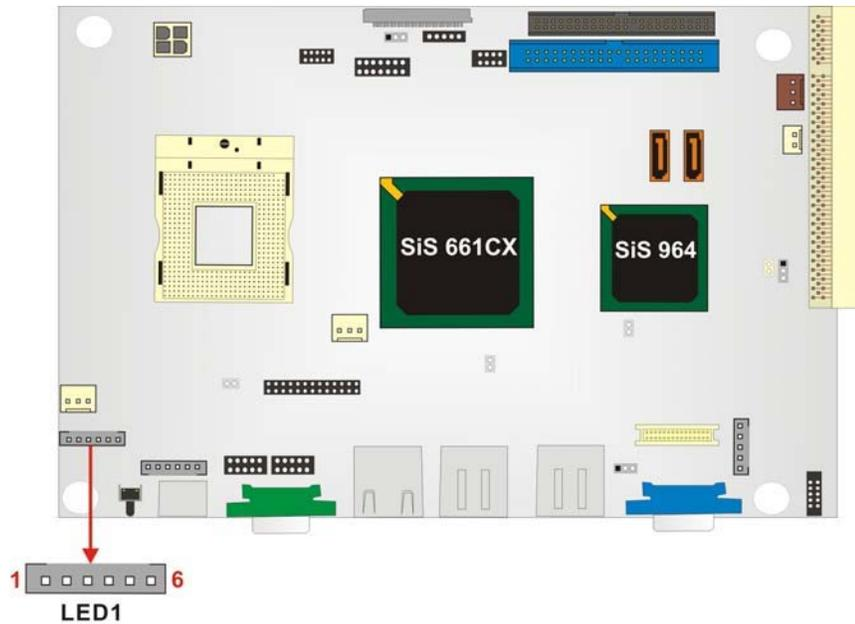

Figure 3-17: LED Connector Pinout Locations
- CN Location:** See Figure 3-17